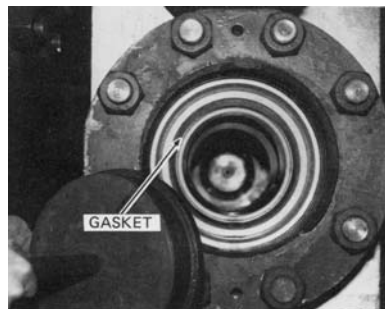

Figure 4-3 Cylinder head plug and gasket
2. Remove cylinder head or discharge valve cover plug and gasket. (Fig 4-3)
2. Remove cylinder head plug and inspect gasket (Figure 4-3). Remove and discard gasket if damaged or worn.